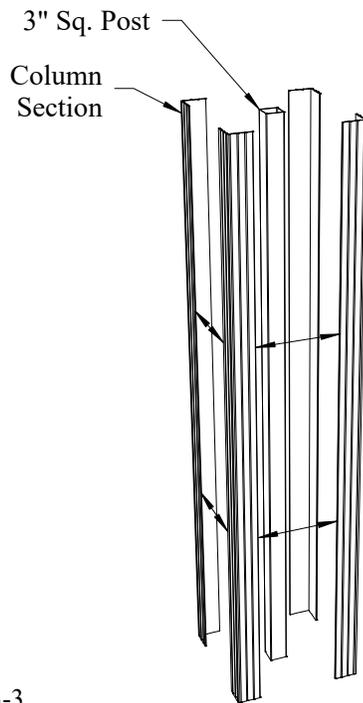

Fig. 3-3
- Once two sets of sections are locked together, stand them on end and snap the open ends together around a post (see Fig. 3-3).